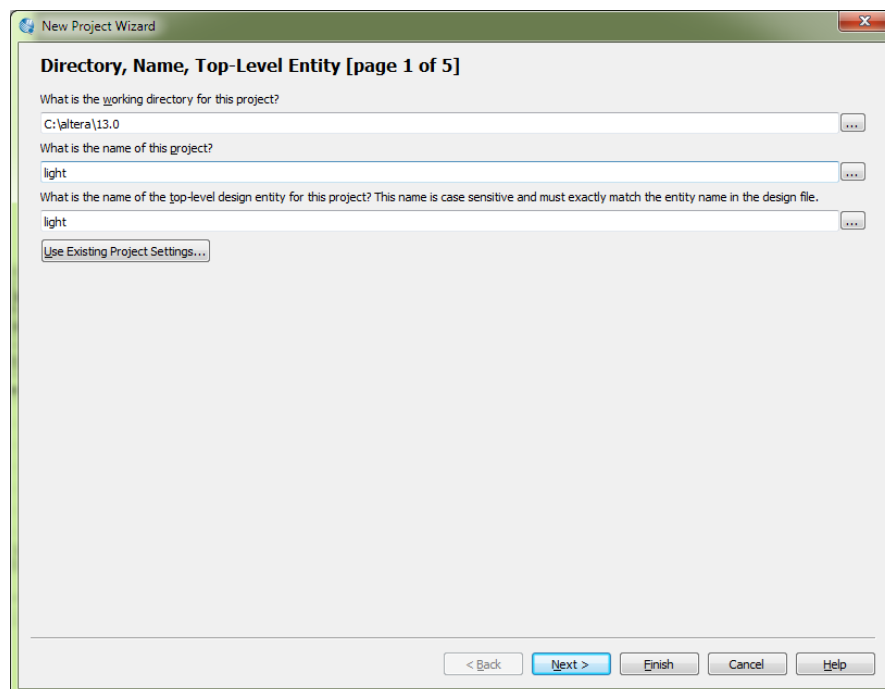

Figure 4. Creation of a new project.
1. Select **File > New Project Wizard** to reach the window in Figure 4, which asks for the name and directory (folder) of the project. This example uses the folder `c:\altera\13.0` (you should use a more appropriate folder such as one related to this course). Make the name of the project “light”.